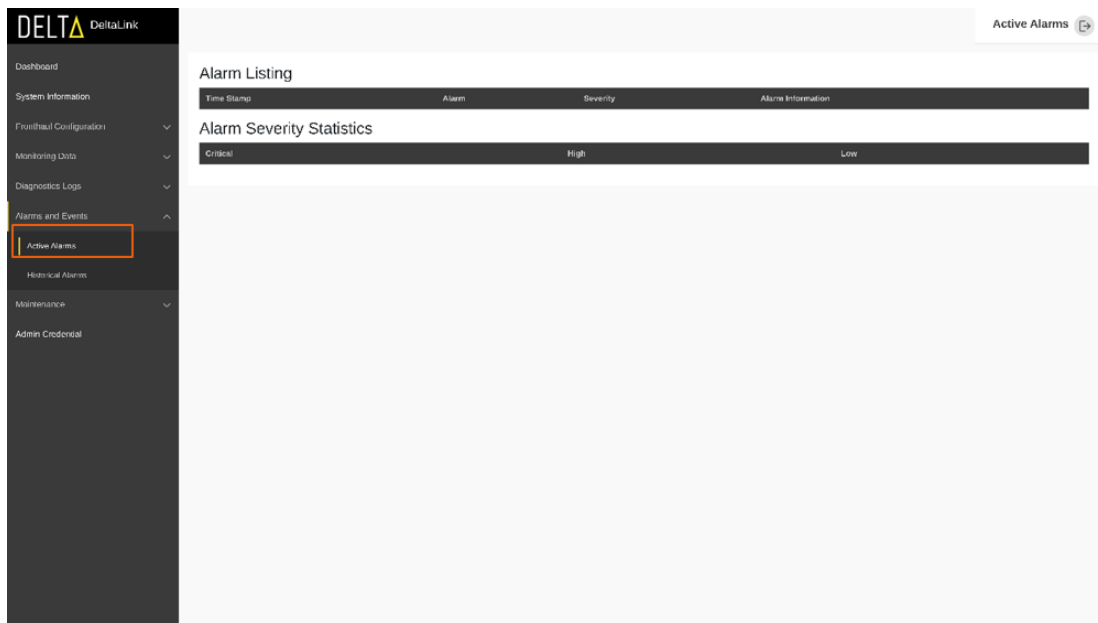

Figure 50 Active Alarms
- To view active alarms, navigate to “Alarms and Events” and select “Active Alarms” from the expanded menu as shown in the Figure 50 below.